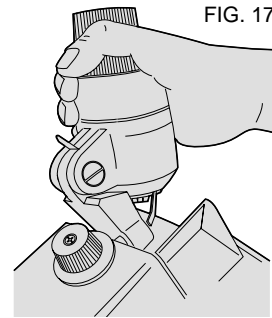

FIG. 17
SHARPENING FIRST CUTTING LIP (Figs. 17, 18, 19)
1. With motor "OFF," lower swinghead to sharpening position (Fig. 17).